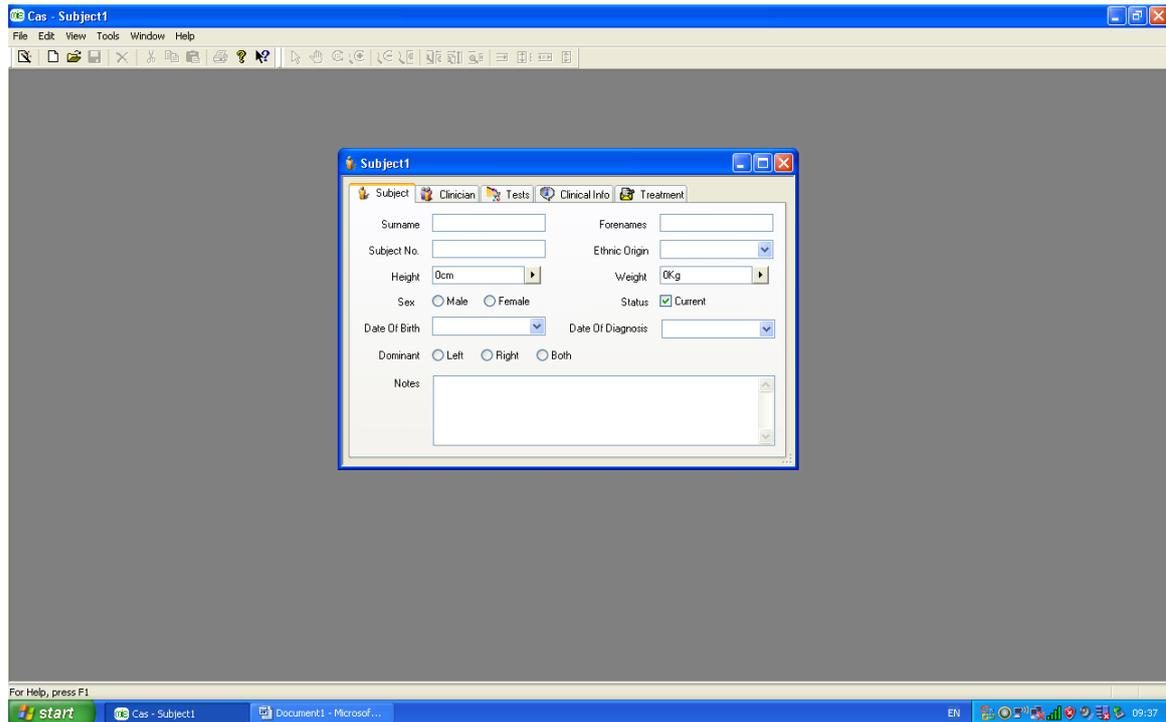

Figure 3.
11. A box then opens, giving options for the entering of patient details. In this section under the "Patient" tab, enter the patient details i.e. Surname, first name, patient number, etc. After entering this information you must click the "Save" icon on the toolbar in order to progress with the tests. Following this step you may now enter any further required/appropriate information into the boxes in any of the other tabs (clinical, tests, clinical info and treatment (figure 3).